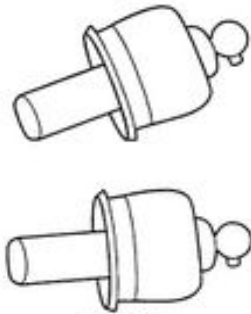

FIGURE 5
2. Remove the new jackscrews from their kit's plastic bag. Separate and discard the protective gear carriers from the jackscrews. Install the jackscrews in the sealing boots (refer to Figure 5).